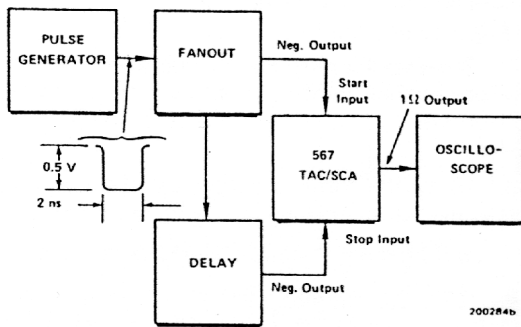

Fig. 2. Test System for Checking Conversion.
CONVERSION TESTS Use the typical test setup shown in Fig. 2 and supply a start and stop pair of input signals with known time difference into the 567. Observe the TAC output. Then use the following procedures:
1. Use the circuit shown in Fig. 2. Select a convenient time range and adjust the stop delay to obtain an output of ~5V through the TAC Output connector.
Conversion Current Calibration This calibration affects the conversion gain of the TAC circuitry. To calibrate the conversion gain of the 567, set up the circuit as shown in Fig. 2, and follow the setup procedures outlined in steps 1 through 3 of Section 5.1, "Conversion Tests."